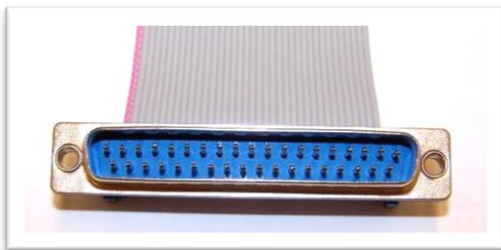

Figure 3: The male end of the cable assembly
- 1) On the male connector, shown in Figure 3, gently pull apart side retainers to release connector backing, Figure 4 and Figure 5. Once this is done, your connector should look like Figure 6.